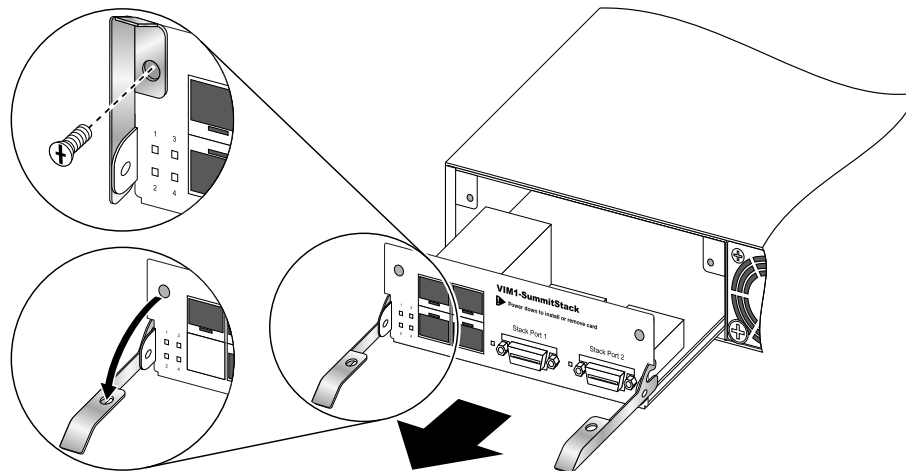

Figure 442: Removing a VIM (VIM1-SummitStack Module Shown)
3. Remove the installed VIM (see Figure 442 on page 506):